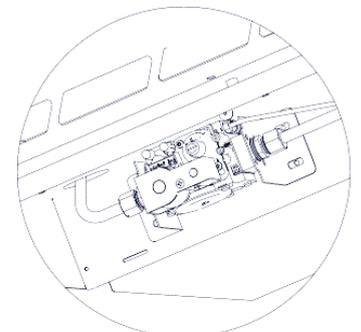

Figure 10
3.3.5 Setting Oven Burner Pressure (Refer to Figure 10)
- Connect manometer to valve outlet pressure test point as detailed in Figure 10.